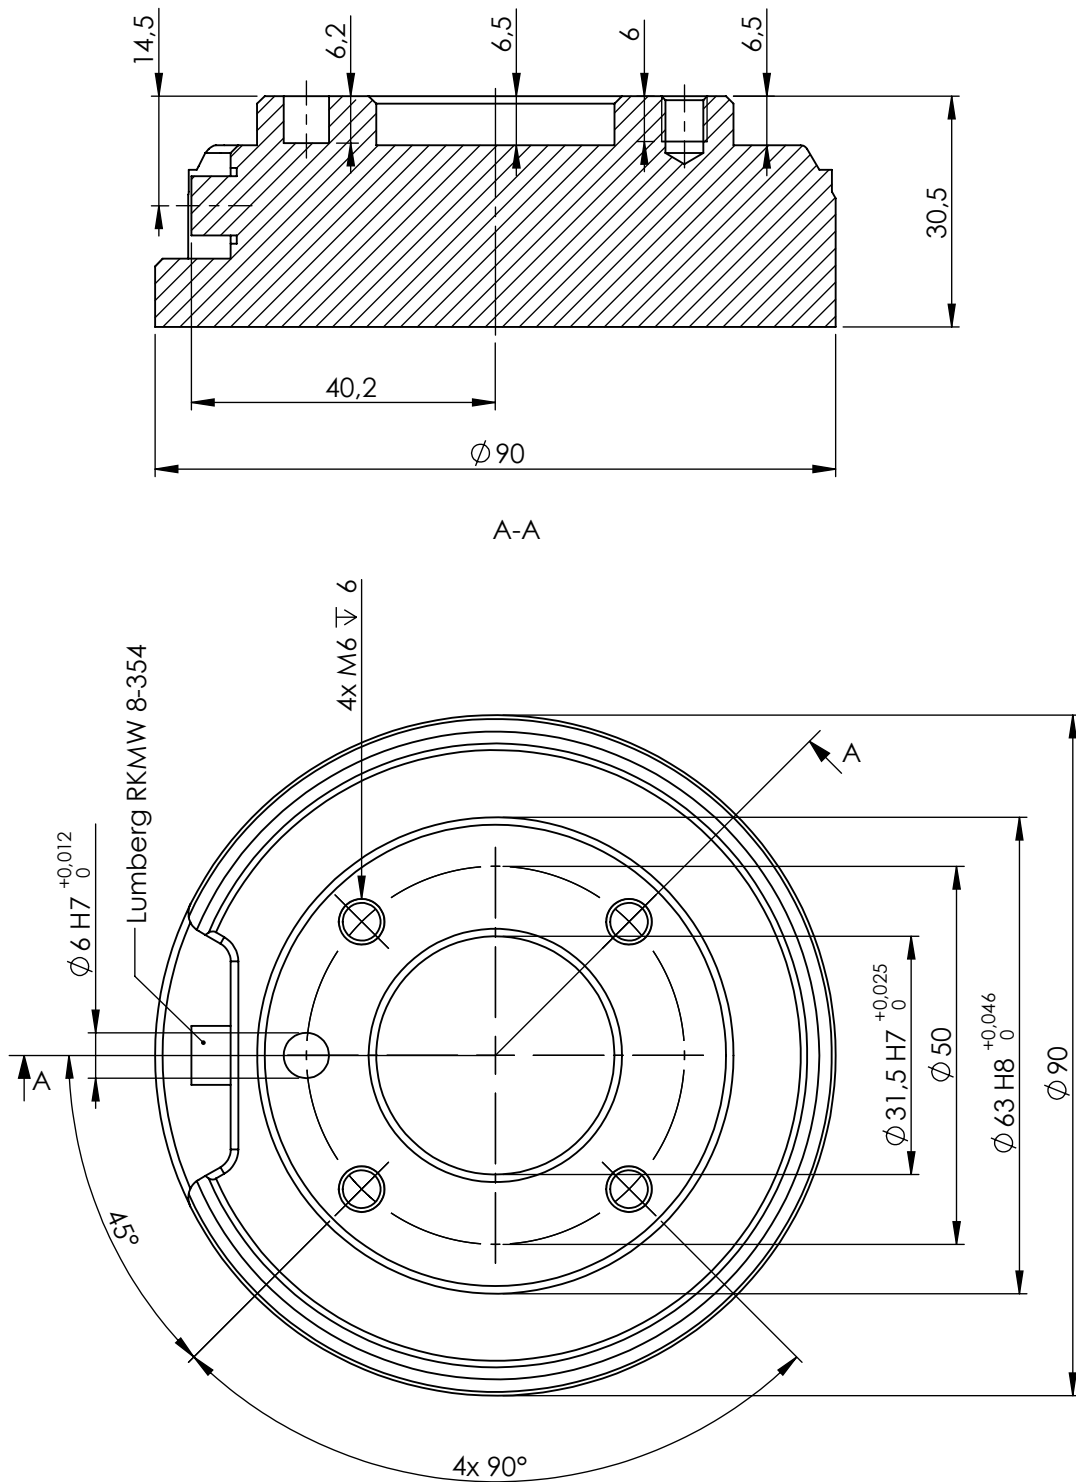

Figure 4.2: The tool output flange, ISO 9409-1-50-4-M6. This is where the tool is mounted at the tip of the robot. All measures are in mm.
**Tool** The robot tool flange has four M6 thread holes for attaching a tool to the robot. The holes need to be tightened with 9 N m. If very accurate repositioning of the tool is desired, the Ø6 hole is provided for use with a pin. Figure 4.2 shows where to drill holes and mount the screws.